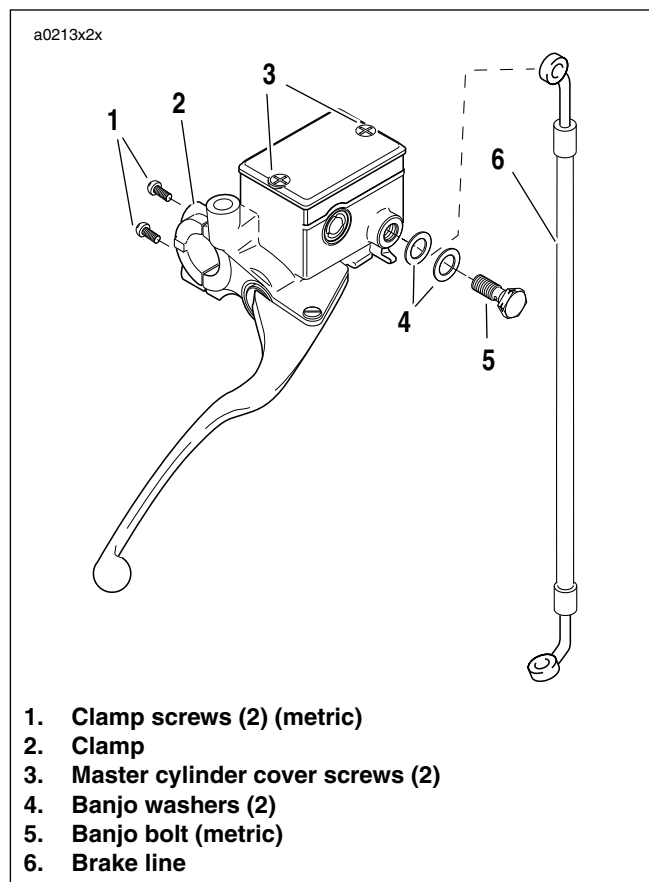

Figure 2-27. Front Master Cylinder
3. See Figure 2-27. Remove banjo bolt (6) (metric) and two banjo washers (4) to disconnect brake line (5) from master cylinder. Discard banjo washers.
1. See Figure 2-27. Fasten master cylinder to handlebar by installing clamp (2) and screws (1) (metric). Tighten to 80-120 **in-lbs** (9-14 Nm).
5. See Figure 2-27. Remove the two master cylinder cover screws (3), cover and cover gasket.
9. See Figure 2-27. Attach master cylinder cover and cover gasket with the two cover screws (3). Tighten to 9-13 **in-lbs** (1.0-1.5 Nm).